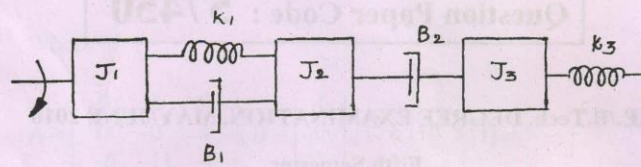

Fig. 11(a)
11. (a) (i) Compare open and closed loop control systems. (4)
(ii) Write the differential equations governing the mechanical rotational system as shown in Fig. 11(a). Draw the both electrical analogous circuits. (12)